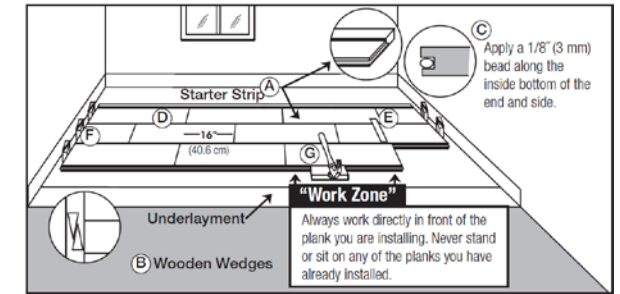

Figure 14
- Select the first board for all additional rows, removing the tongue for expansion space if necessary. Apply a continuous 1/8" glue bead to the inside bottom of the groove on the end of the board. Install with the groove side against the wall, using the longest boards. Follow tongue orientation for installation direction (Figure 14). If a sacrificial board was used, remove it; do not glue the first row to it.
- Complete the first row, cutting the last board for 1/2" clearance from the wall. Use the remaining cut end as a starter board for subsequent rows. Install a wedge on the end, allowing 1/2" expansion. Avoid boards shorter than 16" in the first four rows (Figure 14).
- Use a pull bar to pull the last board into place from the opposite end. Install wedges into the gap and tighten (Item B, Figure 14).
- For the second row, cut or use a shorter board as the first one. Apply a 1/8" glue bead along the inside bottom of the end and side groove of each new board. Install the first board, apply glue to the next, and install. When installing boards together, use a tapping block against the tongue (Item G, Figure 14) and tap into place with a hammer. Do not tap directly on the edge with the hammer. Complete the second through fourth rows using this technique. Insert wedges on the ends, as necessary, to restrain floor movement.